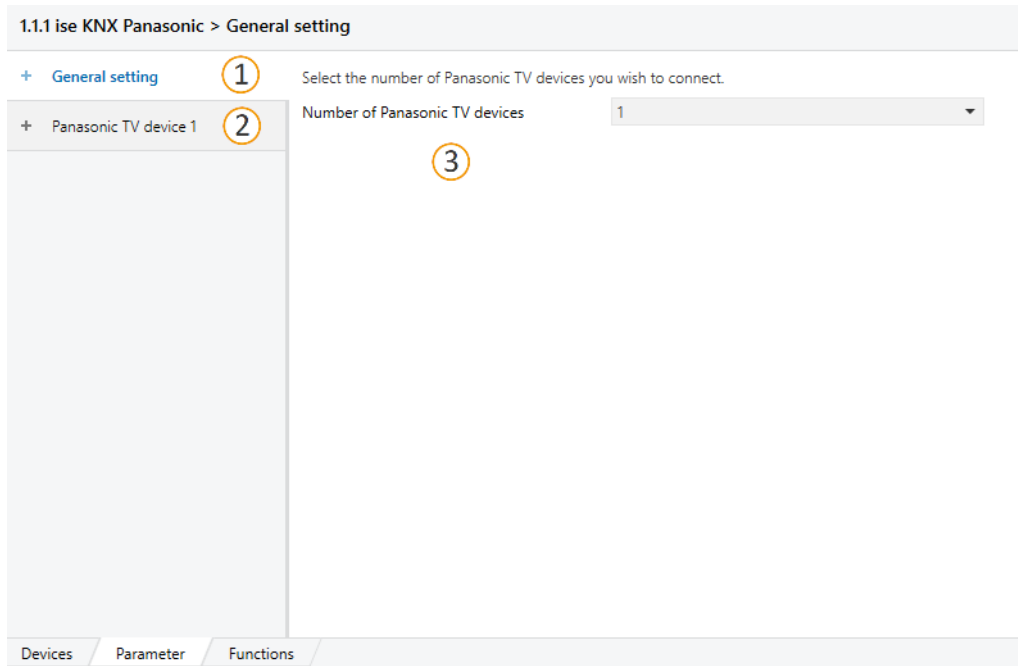

Figure 20: Parameters in the ETS
► See figure 20, Parameters in the ETS.